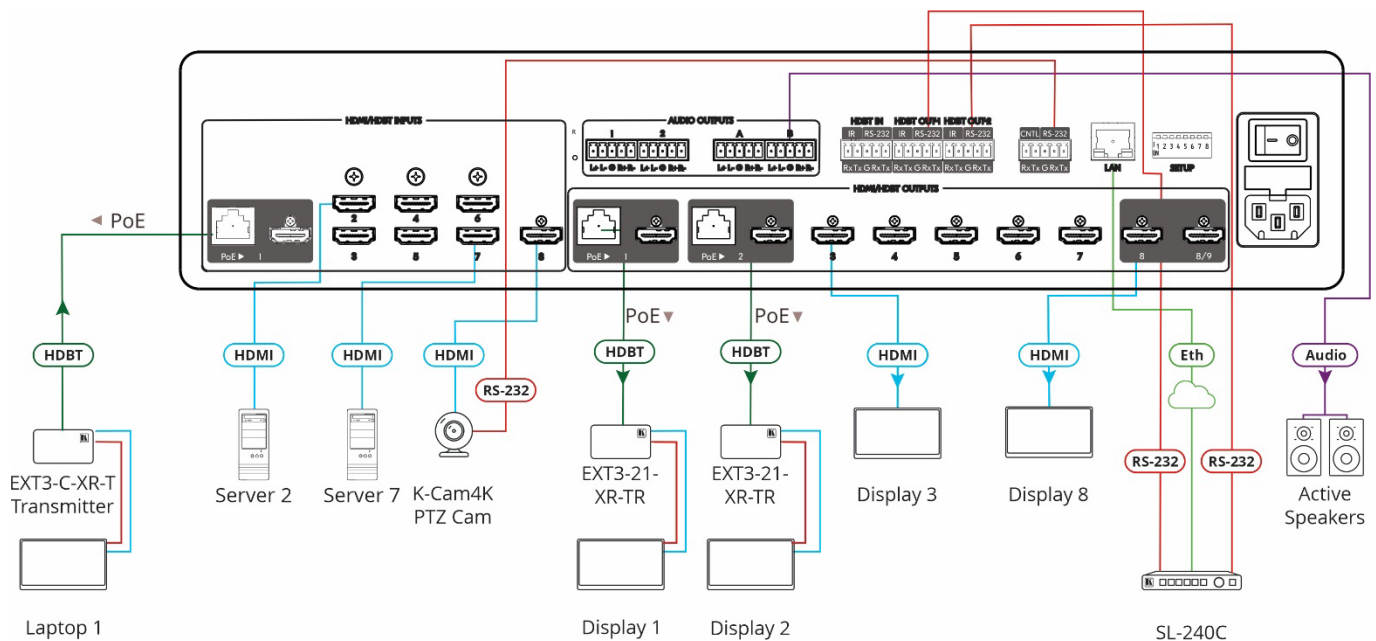

Figure 3: Connecting to the MTX3-88-SE Rear Panel
To connect **MTX3-88-SE** as illustrated in the example in Figure 3:
8. Connect the power to the mains electricity (not shown in Figure 3).